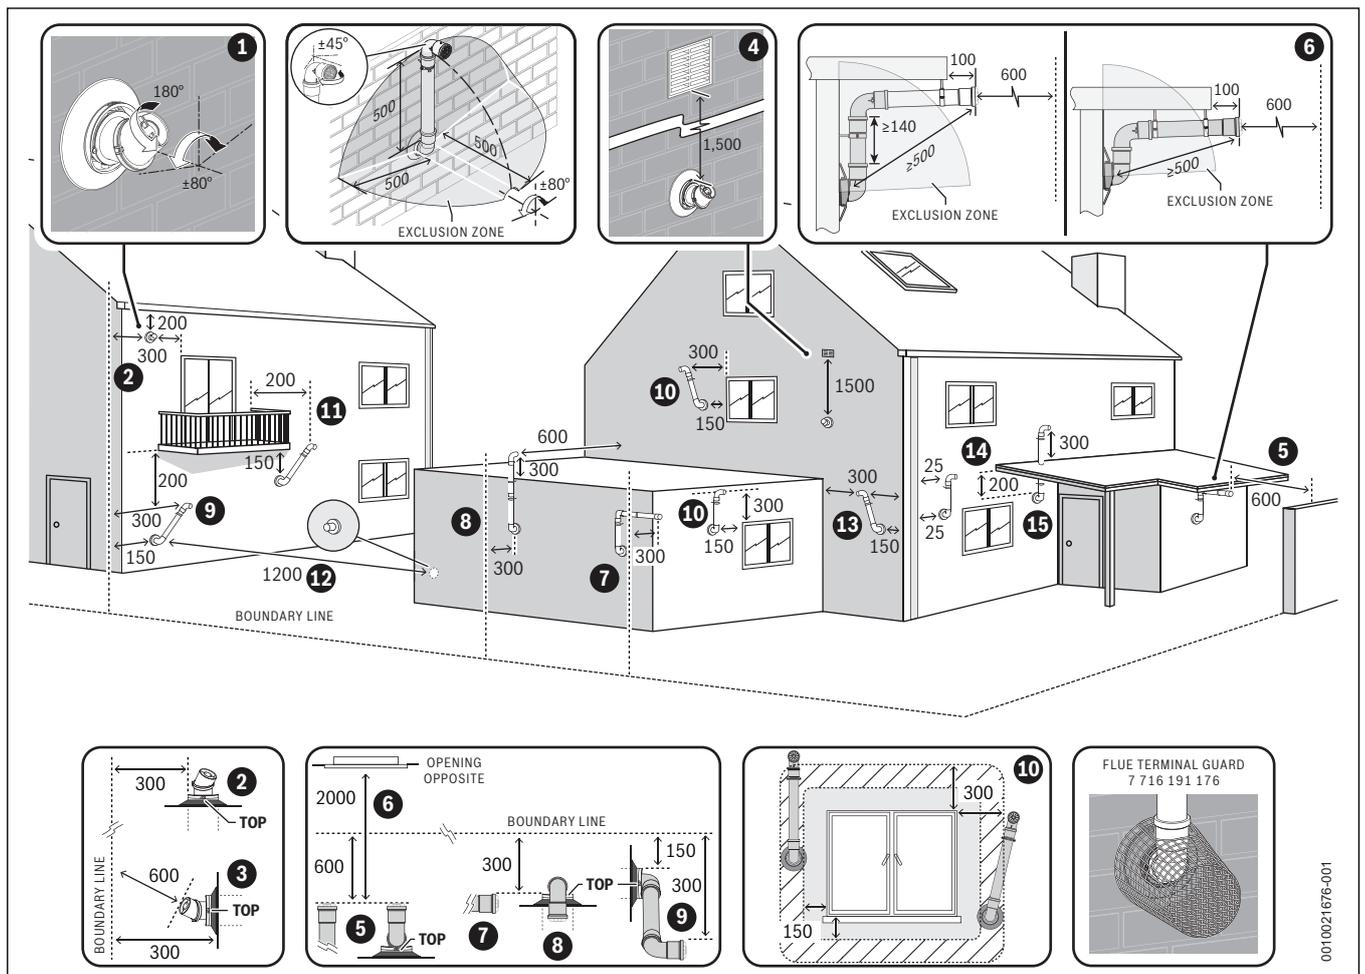

Fig. 28 Plume re-redirect and plume management terminal positions
- ▶ Refer to “Horizontal flue terminal positions” for all concentric flue terminal positions unless the flue position is specified in figure 28 “Plume re-redirect and plume management terminal positions”.
Key to figure 28 - Plume re-direct terminal positions:
Key to figure 28 - Plume management terminal positions: